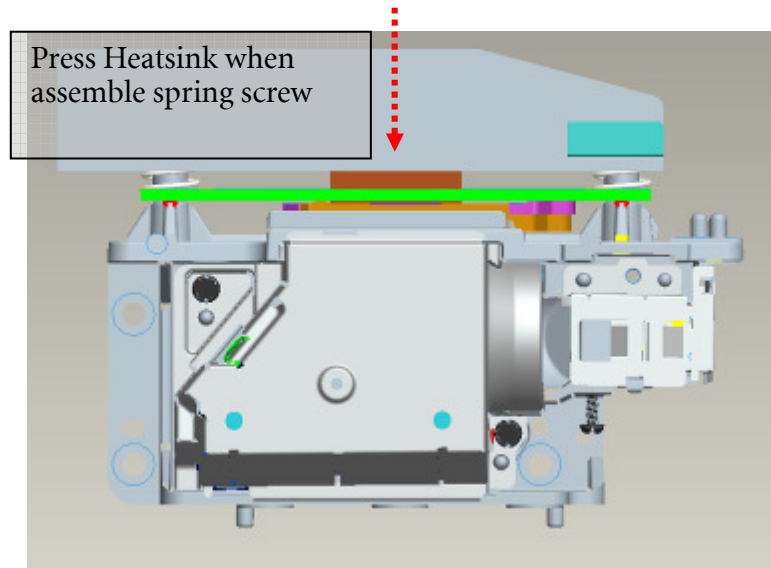

Fig. 5-4-1
5.4 Assemble Thermal Pad & Gasket Hest-sink then place contact DMD (Fig. 5-4-1~2).